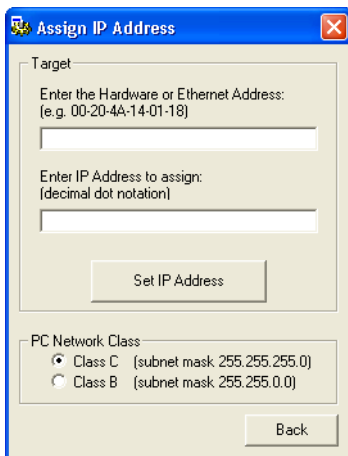

Figure 19: Assign IP Address
2. Click the  button to open the Assign IP Address window (see Figure 19).